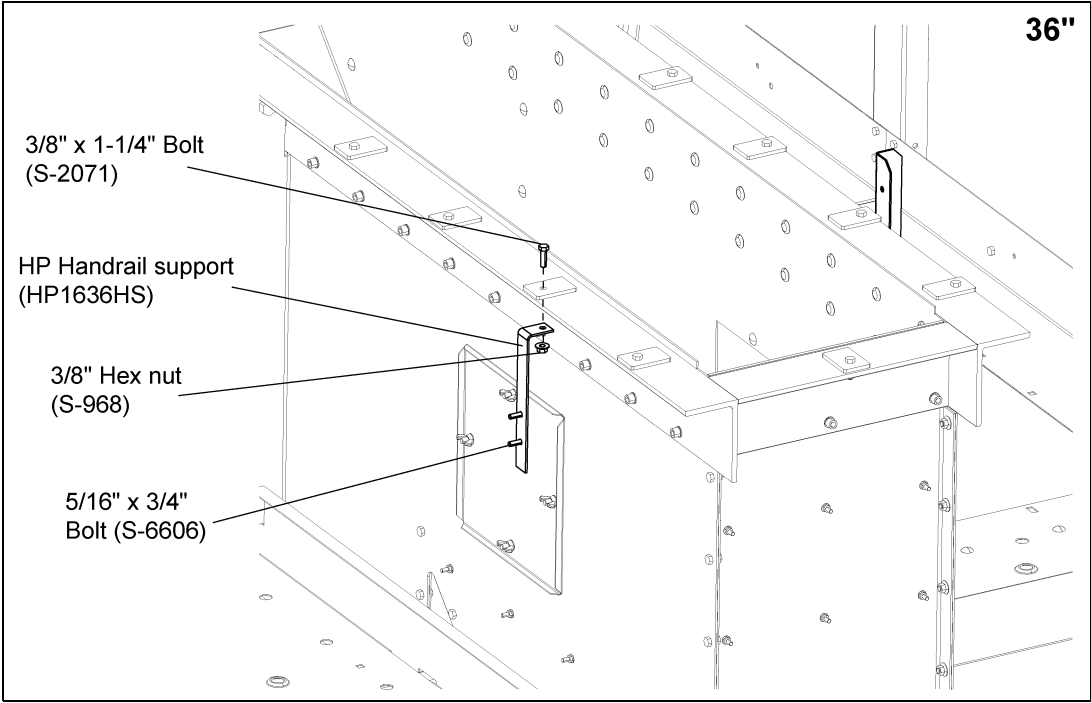

Figure 10G
- 1. Attach two (2) HP handrail supports (HP1636HS) to lower head using 3/8" x 1-1/4" bolt (S-2071) and nut. (See Figure 10G.)